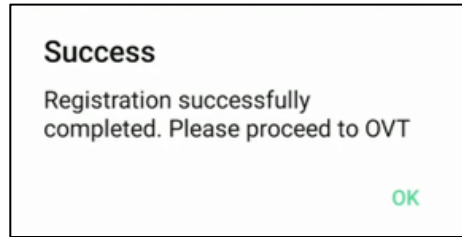

Figure 70: Registration successful
- When the modem successfully registers, a **Success** pop-up message appears (Figure 70). Tap **Ok**.